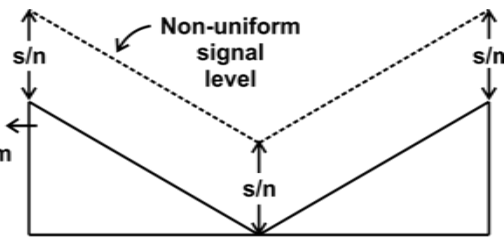

Fig.10.3(b)
- To compensate this, a high frequency modulating signal is emphasised or boosted in amplitude in transmitter before forming modulation. To compensate for this boost, the high frequencies are attenuated or de-emphasised in the receiver after the demodulation has been performed. Due to pre-emphasis and de-emphasis, the S/N ratio at the output of receiver is maintained constant as shown in Fig.10.3(b).